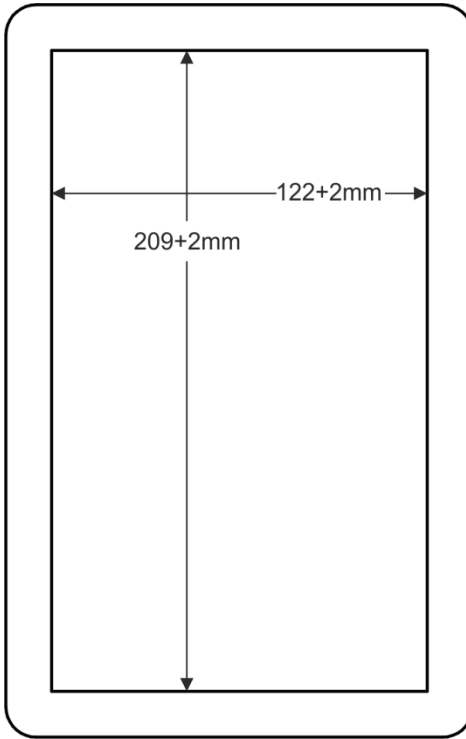

Figure 5: Cut out Dimensions (not to scale)
4. Following the **inside** edge of the template, cut a hole in the table surface with a sabre or keyhole saw according to the dimensions shown in Figure 5 (not to scale).